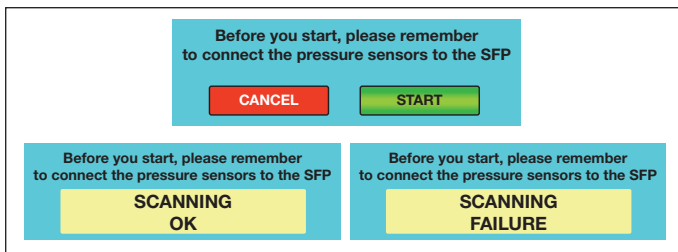

Figure 17, Advises in Auto Scan Tool
3. Special Parameters button: Pushing this button, the user can access to the special parameters screen (Refer to the paragraph 5.4 for further details). The system will require an user name (parameters) and password (200)
7. Auto Scan tool: Pushing this button the system will find the number of cylinders that are connected and available for the work. This scanning is based in finding the number of connections of the pressure transducers. Therefore is important all the pressure transducers connections are correctly connected before performing this tool. Refer to Figure 17 to see the advises that come up when using the scanning tool).